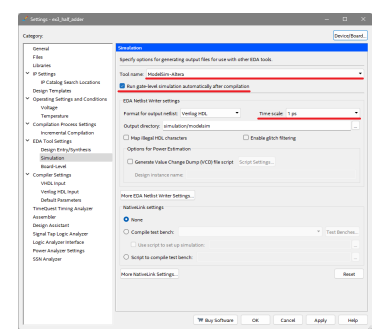

Figure 18: Modify the settings
9. Modify the settings. (Figure 18)